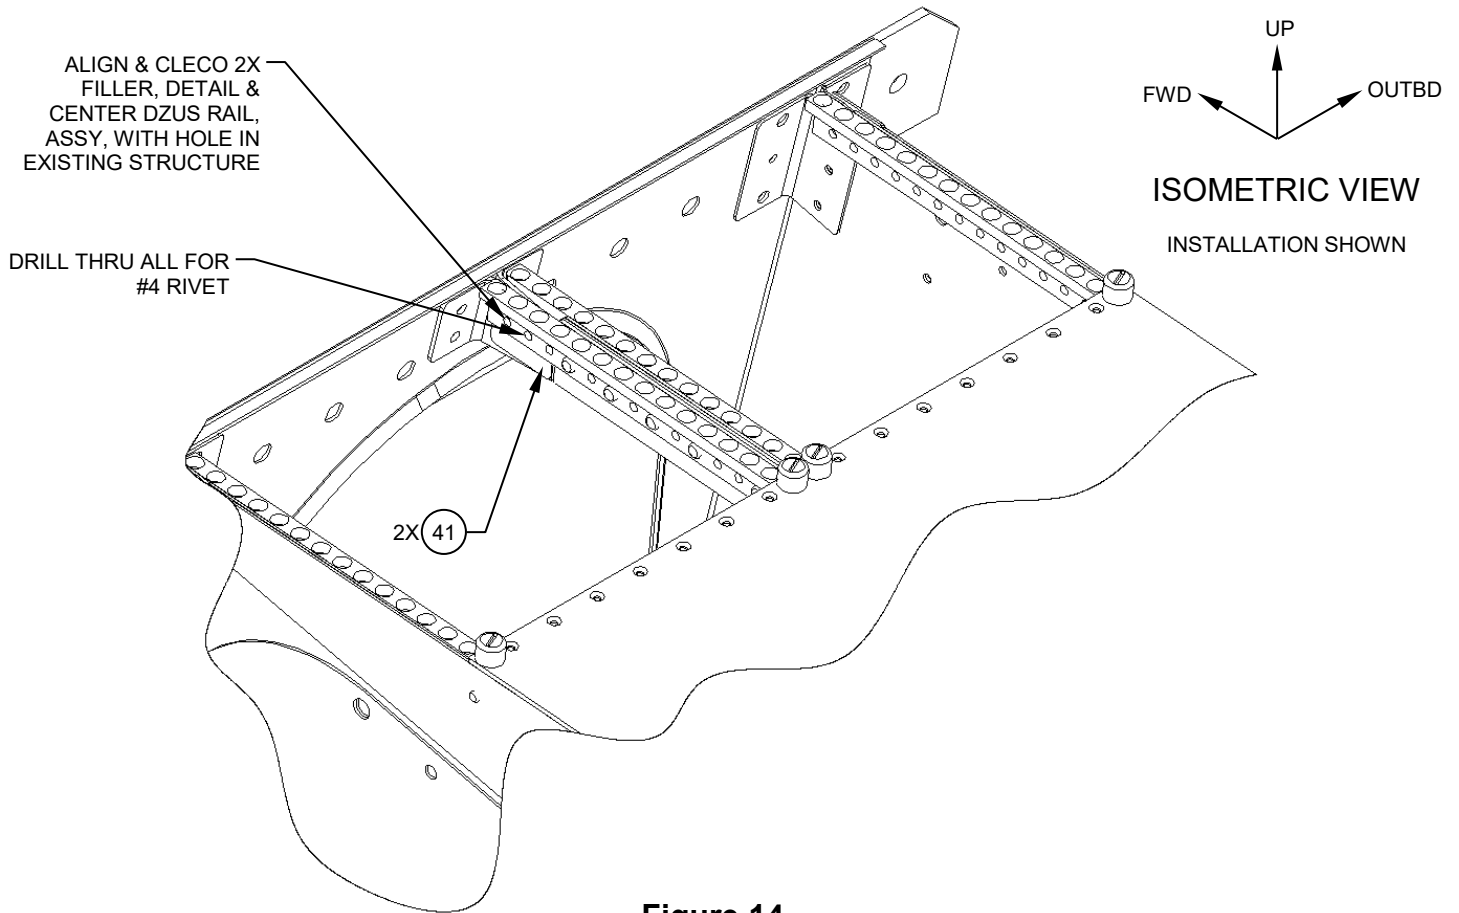

Figure 14
3.1. Align the 2X Filler, Detail, (Item 41), with the previously trimmed edge, and 1X Drill through the Center Dzus Rail, Assy, (Item 12), 2X Filler, Detail, (Item 41), and the OEM stucture, for 2x Rivet, Solid, Universal Head, (Item 37). See Figure 14.